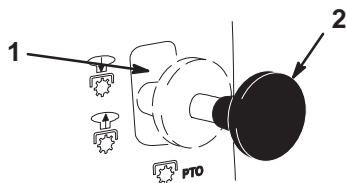

Figure 5
2. Pull the blade control (PTO) to **on** (Fig. 5).
2. Push the blade control (PTO) to off (Fig. 5).